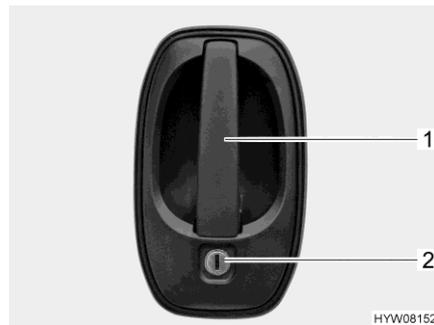

Fig. 49 Door lock (driver's door/conversion door, outside)
- Opening:* ■ Insert the key into locking cylinder (Fig. 49,2) and turn until the door lock is unlatched.
- Pull on the door handle (Fig. 49,1). The door is open.
- Locking:* ■ Insert the key into locking cylinder (Fig. 49,2) and turn until the door lock is engaged.